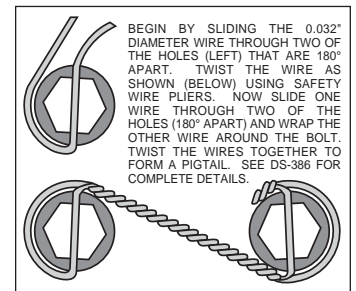

Figure 3. Safety Wire Diagram
- Orient the rotor (6) and the hat (7) as shown in Figure 1 and Photo 3. Attach rotor to hat using bolts (9) and washers (8). Using an alternating sequence, apply red *Loctite*® 271 to the threads, and torque to 140 **in-lbs**. For an added measure of security, the bolts may be safety wired using standard 0.032 inch diameter stainless steel safety wire as shown in Figure 3. Please refer to Wilwood's data sheet DS-386 (available at www.wilwood.com/Pdf/DataSheets/ds386.pdf) for complete safety wire installation instructions.